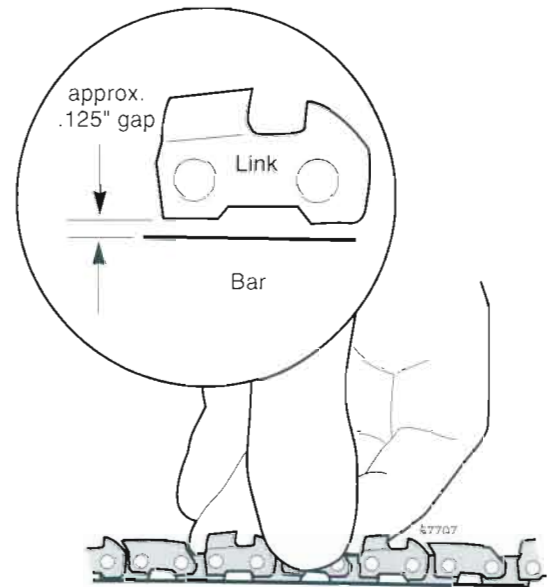

Figure 6.28 Proper Chain Tension (slightly tighter for sprocket-nose bars)
STEP 4. While wearing heavy gloves, push the chain around the bar to verify smooth operation. Adjust chain tension if necessary (Figure 6.28).